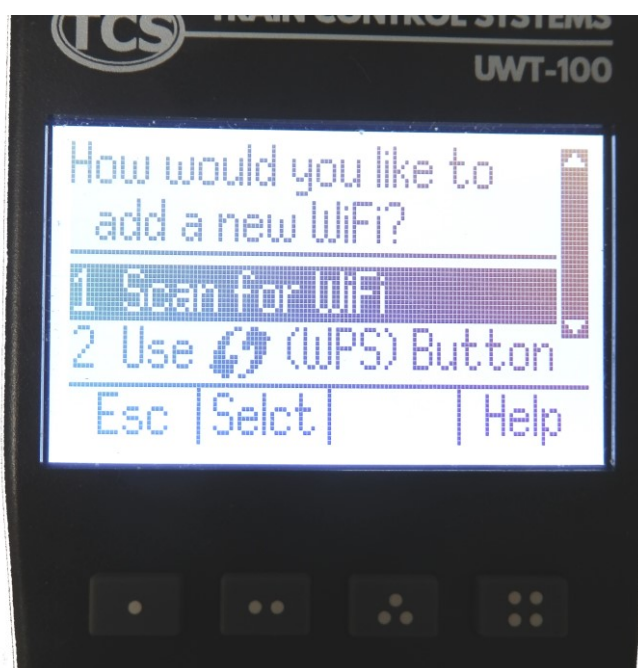

Figure 26 Select Scan for Wi-Fi
(4) Select option 1, Scan for Wi-Fi as Figure 26.